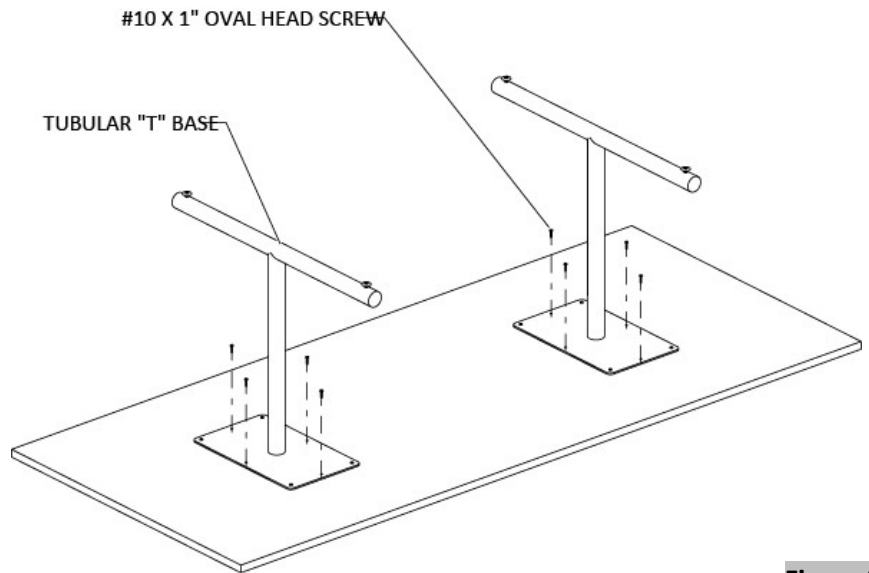

Figure 3
3. Drive four more screws to table top using #10 X 1" Oval Head Screws, (Figure 3).